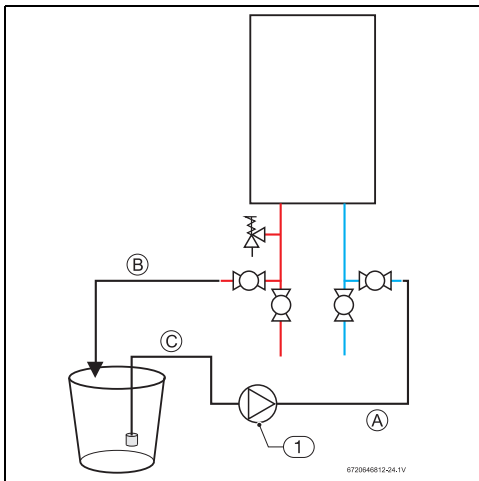

Fig. 59
- Connect a line (A) from the outlet of the circulating pump (installer supplied) to the inlet water fitting on the water heater (see fig. 59.)
- Using another line (B), connect the water outlet fitting on the water heater. Route the other end of this line into a descaling reservoir.
- Using a 3rd line (C) from the descaling reservoir, connect to the inlet side of circulating pump. Install a filter on the end of the line in the descaling reservoir.